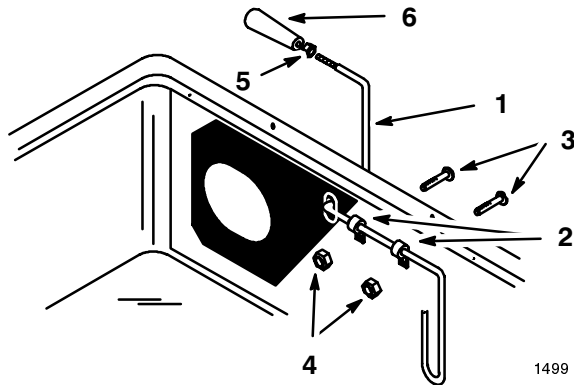
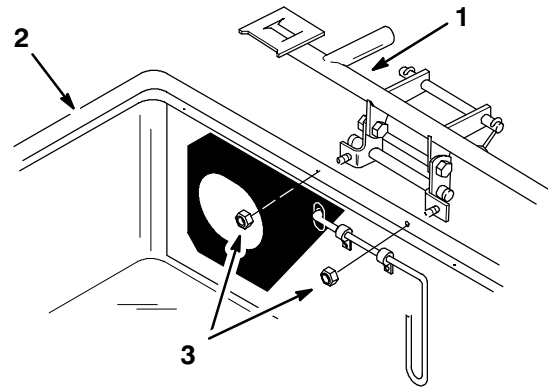

Figure 7
Figure 8
1. Install the “full-bag” indicator rod through the hole in the rubber seal and the slot in the bagger cover (Fig. 8). Mount the full-bag indicator rod against the bagger cover using two clips, 1/4 x 3/4” screws, and 1/4” lock nuts (Fig. 7).
2. Screw the jam nut completely onto the indicator rod (Fig. 8). Then screw the handle (Fig. 8) close to the jam nut so you can read the decal from the operator’s position. Tighten the jam nut up against the handle to lock it in place.
3. Attach the frame assembly to the bagger cover with (2) 1/4” lock nuts (Fig. 8).